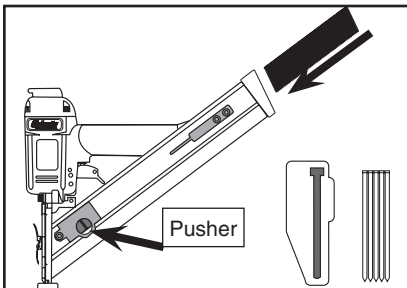

Figure 3. Loading finish nails into nailer.
2. Insert a nail stick into the T-slot at the top of the magazine as shown in **Figure 3**.